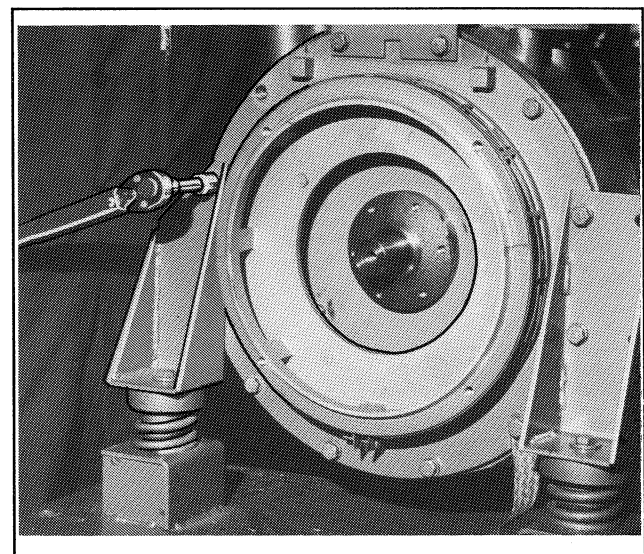

Figure 8-10. Removing Vibro-Mount Brackets
17. With a hoist supporting the generator by the lifting eye, remove bolts securing vibro mount brackets to the adapter plate (Yanmar) or flywheel housing (Perkins). See Figure 8-10.